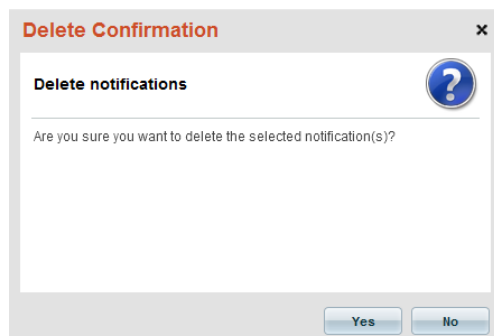

FIG. 340 Delete Confirmation dialog - Notifications
3. The program will prompt you to verify this action (FIG. 340):